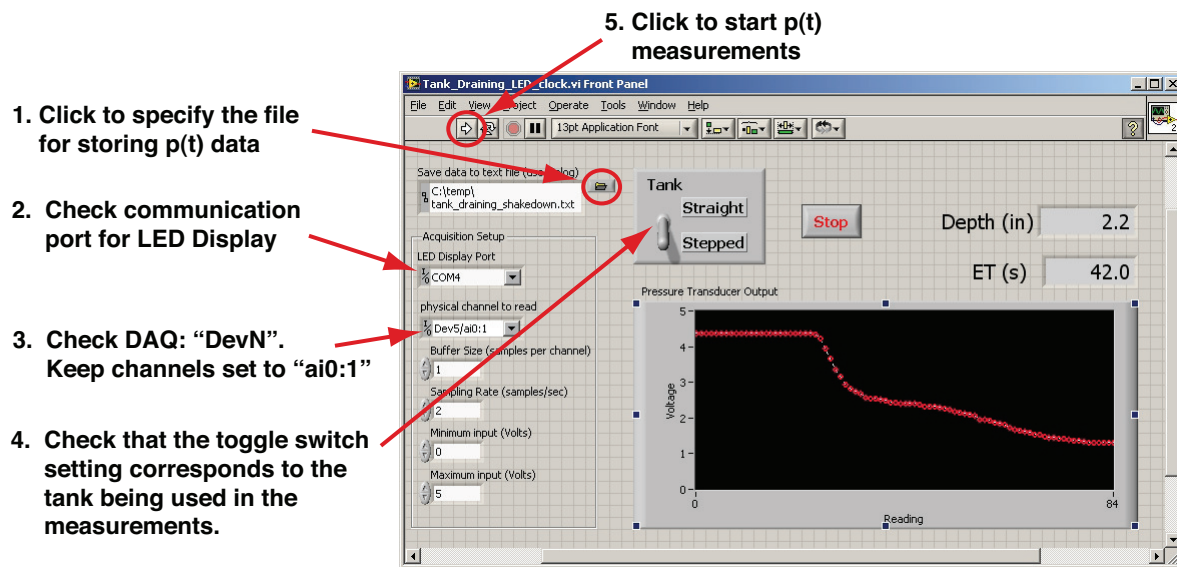

Figure 5: Annotated screenshot of the LabVIEW VI for the tank draining exercise.
4. Prepare to run the VI. Refer to Figure 5 for the four main steps necessary to run the data recording software.
Note: Values of parameters are set before the data acquisition is started. Therefore, in some sense the VI is already running when it is in the foreground window. Your first set of tasks is to make sure the correct parameters are entered into the controls: Steps 1 through 4 in Figure 5. To start the recording of data, you push the start button: Step 4 in Figure 5.
6. There are at least two USB devices connected to the lab computer. One is the LED display, which shows the elapsed time for the experiment. The other is the DAQ that records the pressure data. Steps 2 and 3 in Figure 5 involve setting the communication parameters for these two devices.
7. Step 4 in Figure 5: Check to see that the toggle switch is set for the tank being used. Adjust as necessary.
8. Step 5 in Figure 5: Start the VI. Wait a few seconds, and then pull the plug in the side of the tank. While the tank is draining, the team photographer should take several pictures.